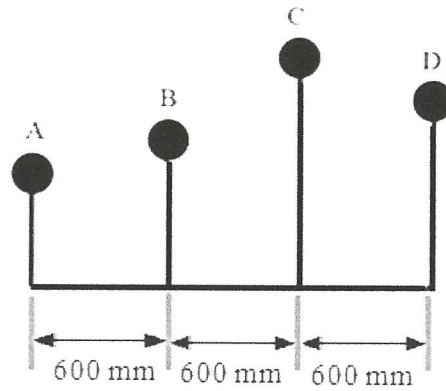

Figure Q3
- (b) A, B, C and D are four masses carried by a rotating shaft at radial 100 mm, 125 mm, 200 mm and 150 mm, respectively as shown in **Figure Q3**. The planes in which the masses revolve are spaced 600 mm apart and the mass of B, C and D are 10 kg, 5 kg, and 4 kg respectively.